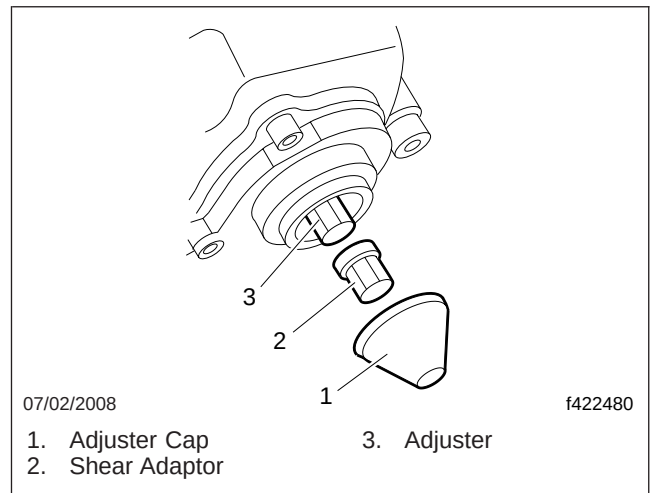

Fig. 2, Shear Adaptor in Position
6. Using the tab, pull off the adjuster cap, being sure to keep the shear adaptor in position on the adjuster. See Fig. 2.